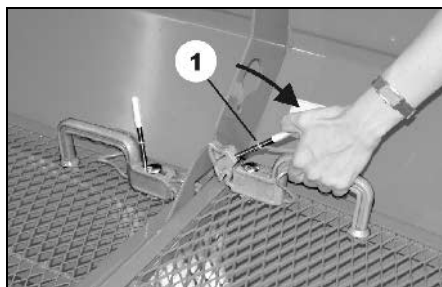

Fig. 7
- (Fig. 7/1) Unlocking position to swivel the guard screen upwards
2. Take hold of the grip and turn the unlocking tool in direction of the grip (Fig. 7).